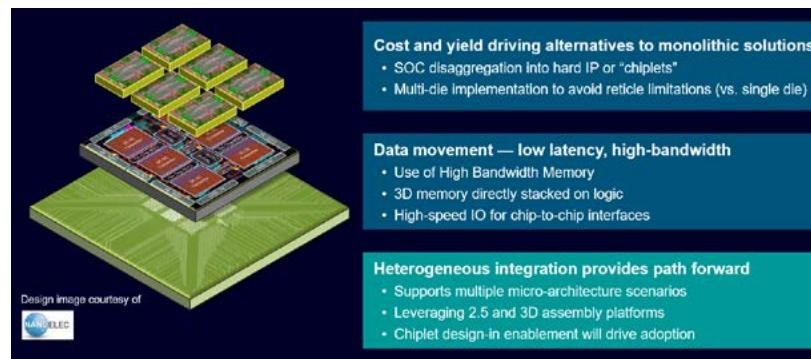

Figure 1: Chiplets answer semiconductor scaling challenges.
These packaging technologies disaggregate what would typically be a homogenous, monolithic device — like an ASIC or system-on-chip (SoC) — into discrete, unpackaged dies, known as chiplets, specifically designed and optimized for operation within a package in conjunction with other chiplets (Figure 1). This is also referred to as heterogeneous integration (HI), where multiple dies or chiplets are integrated into a system-in-package (SiP) design.